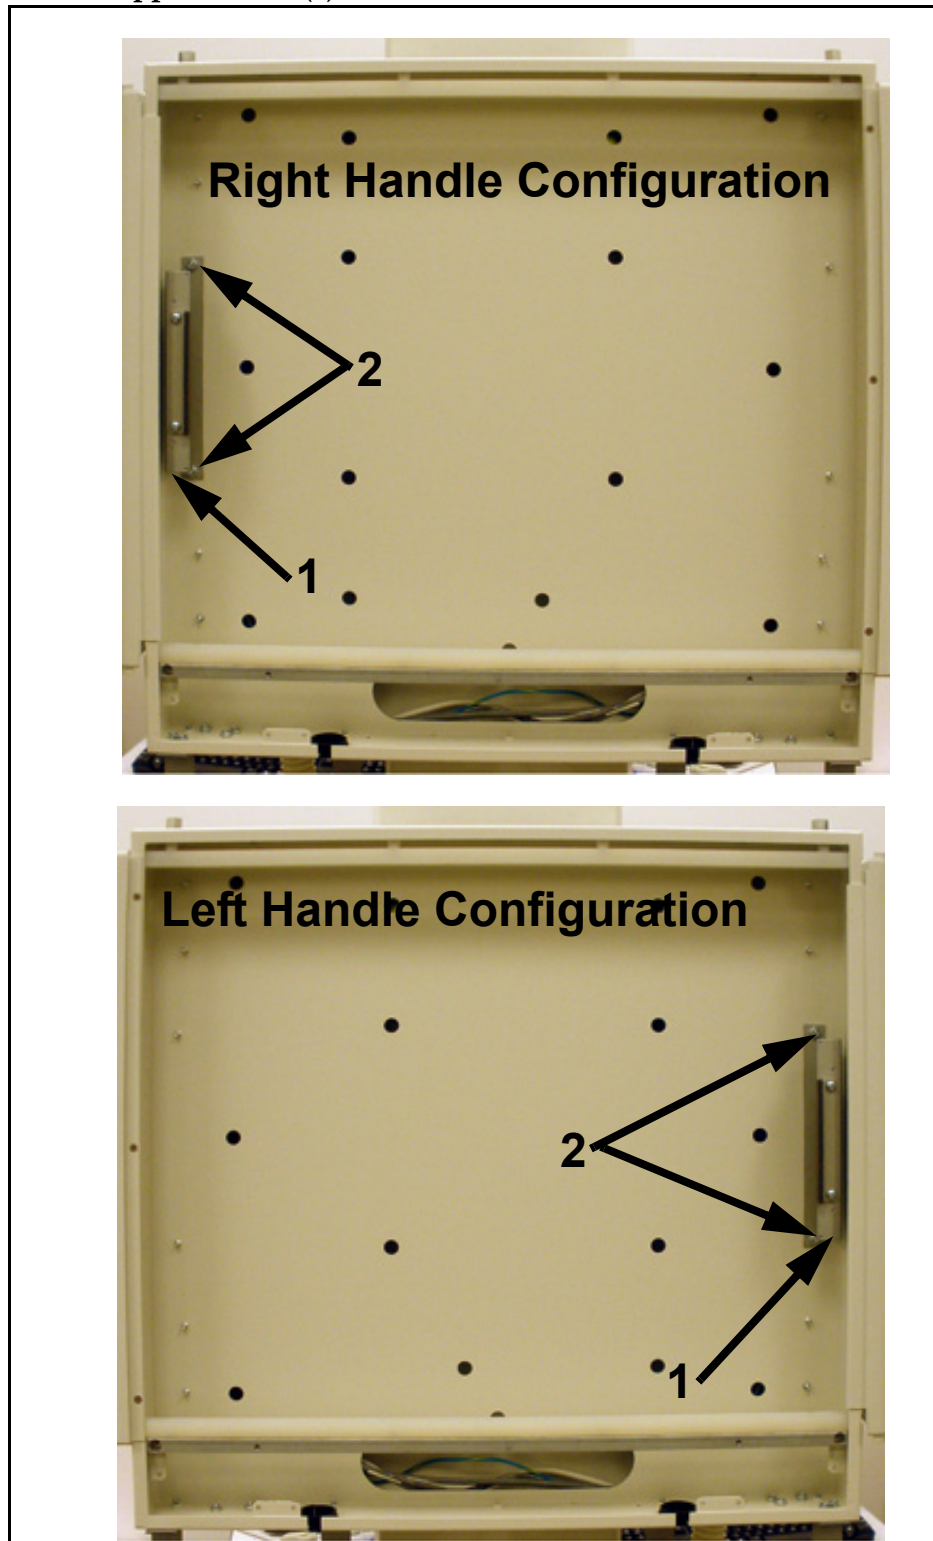

Figure E-28. Grid Bracket
Remove nuts (2 in Figure E-28) and bracket. Remount bracket on opposite side (1).